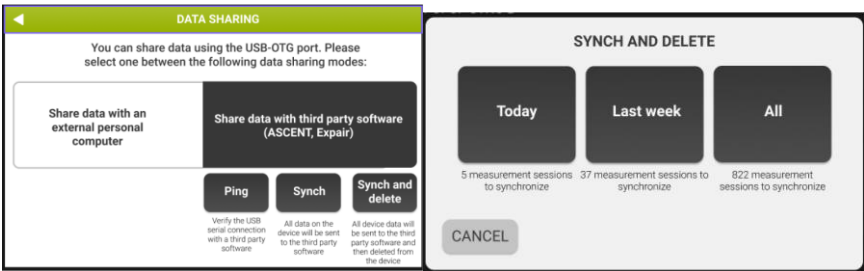

Figure 21 - Synchronization selection
- 6. Select *Sync and delete* to synchronize and delete data from the internal database. The Synchronization can be performed on measurements of the current day, last week or all data. Once data synchronization is ended the data on the device will be deleted (Figure 21).